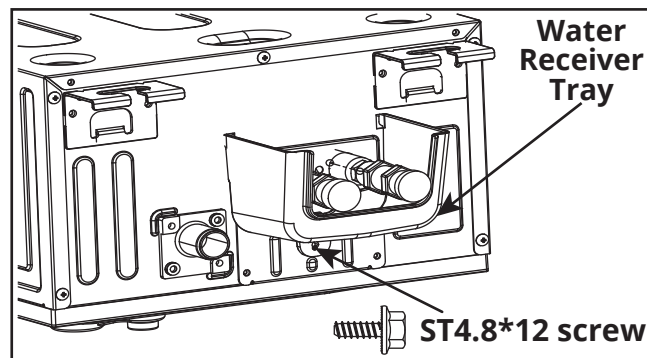

Fig. 5.15
1. Position the water receiver tray beneath the connectors and secure it into place with a ST4.8\*12 screw (refer to Fig. 5.15). **NOTE: Two ST4.8\*12 screws are included, one of them is to be kept as a spare.**